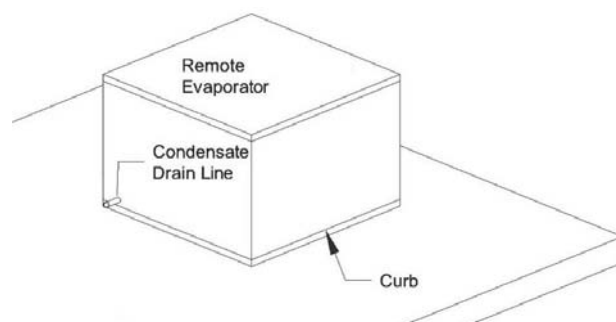

Figure 8
- Note the location of the condensate drain line coming from the evaporator. Locate the electric vaporizer so the condensate will run into it. Refer to Figure 8. If the vaporizer cannot be located at the drain line, use the supplied plastic tubing, copper elbow, and hose clamp(s) as required to extend the drain line. Cut the plastic tubing to length as required.